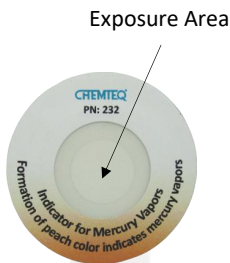

Figure 1
- c. Remove indicator sticker from the packaging pouch (Figure 1).